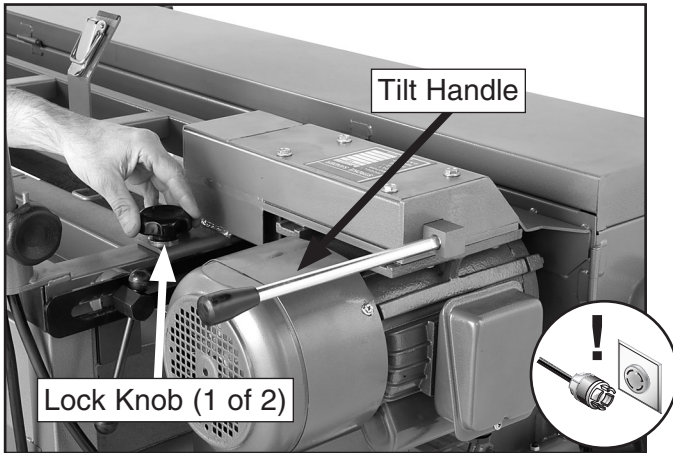

Figure 42. Tilt lock handle and lock knobs.
- Loosen the belt tilt lock handle and remove the two belt tilt lock knobs (**Figure 42**).